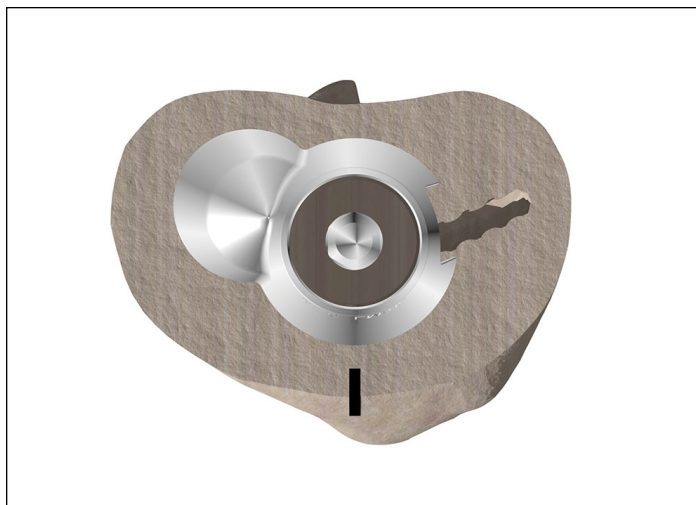

Figure 50
- **Note:** Invert the Cone Trial over the resected tibial bone and ensure that the trial is centered on the IM Reamer (**Figure 50**). Centering the trial helps to ensure proper positioning.